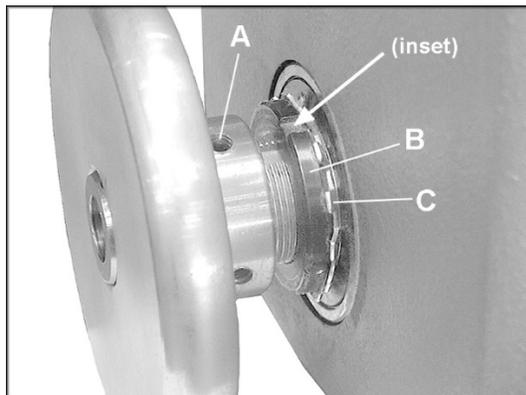

Figure 23
The spindle bearing has been set at the factory for general turning applications. There should be no "end play" or looseness along the spindle's axis. If any looseness should ever occur, it may be rectified by carefully tightening the bearing lock nut on the spindle, as follows. (See Figure 23).
1. Use a screwdriver to carefully bend back any tabs on the tabbed lock washer (C, Figure 23) that interfere with the insets on the bearing lock nut (B, Figure 23).
2. Place the end of a flat head screwdriver down against one of the insets of the bearing lock nut (B, Figure 23).
3. Tap the handle of the screwdriver with a mallet so that it turns the bearing lock nut (B, Figure 23) tighter in a clockwise direction. Rotate the bearing lock nut only about 1/16" at a time.
5. After the bearing lock nut (B, Figure 23) has been properly adjusted, carefully bend back into place any tabs on the tabbed lock washer (C, Figure 23).
4. Loosen the two set screws on the handwheel (A, Figure 23) with a hex wrench and pull the handwheel off the headstock spindle.
5. Loosen and remove the bearing lock nut (B, Figure 23) and tabbed lock washer (C, Figure 23).
9. Slide the spindle back into place, install tabbed lock washer (C, Figure 23), and bearing lock nut (B, Figure 23). Check for any spindle play at this point (See "Checking Spindle Play").
10. Re-install the handwheel and tighten the set screws (A, Figure 23).
11. Align the new sheave (see sect. 9.10, Sheave and Belt Alignment) then tighten the two set screws (C, Figure 23) securely on the sheave.